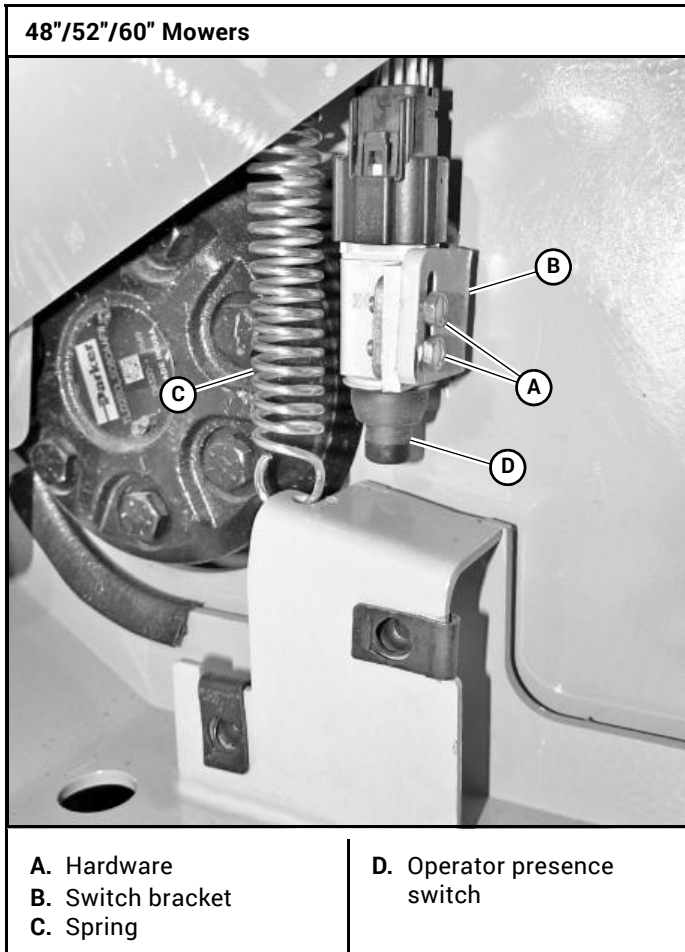

Figure 4-13
1. Loosen the hardware holding the operator presence switch in place. Figure 4-13
2. Adjust the operator presence switch up or down as necessary. Figure 4-13